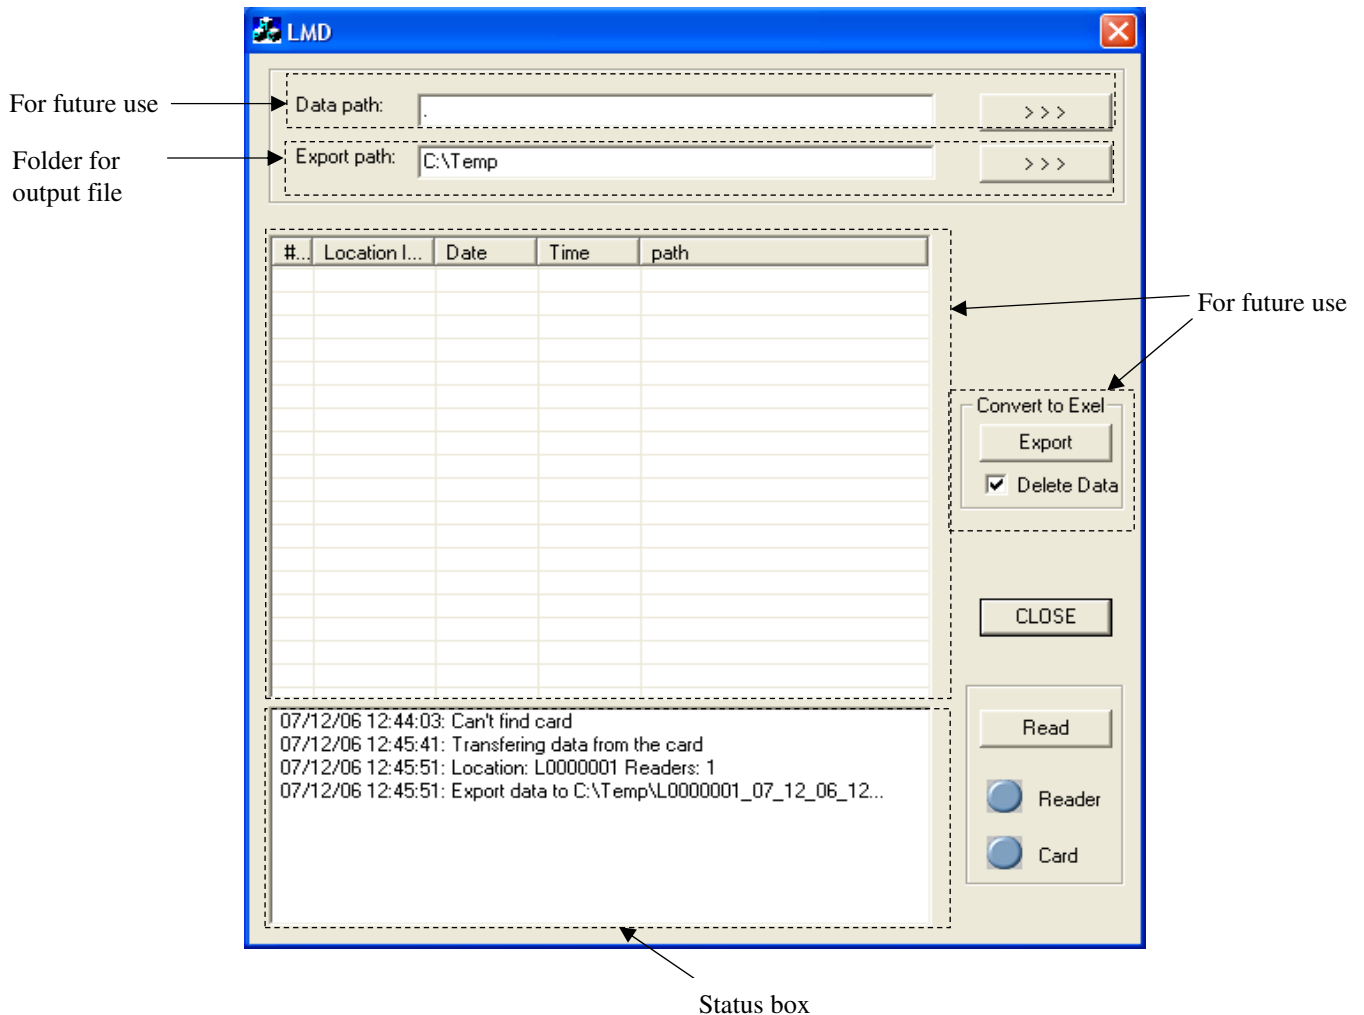

Figure 6.2.1
5. If card reading is successful, the status box will contain messages similar to the last three in Figure 6.2.1. The files have been created in the specified folder and the card has been cleared of records